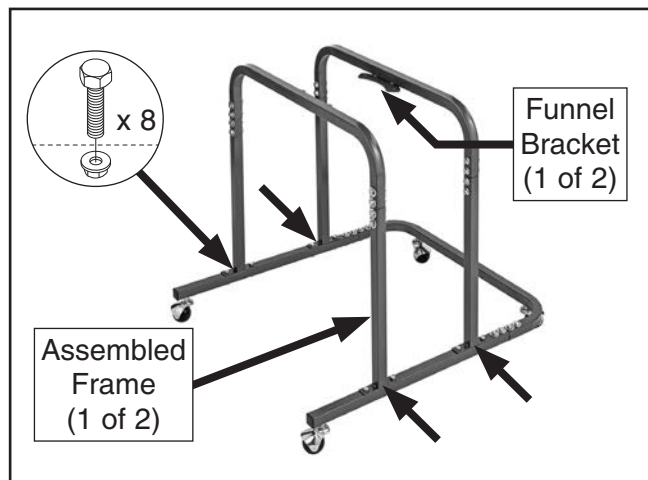

Figure 9. Assembled frames installed on base.
10. Repeat **Steps 7–9** with remaining (1) frame arch, (2) frame legs, and (2) connectors.
11. Install (2) assembled frames on base (see **Figure 9**) with (8) $\frac{5}{16}$ "-18 x $1\frac{1}{4}$ " hex bolts and $\frac{5}{16}$ "-18 flange nuts. Only hand-tighten for now.
Note: Assembled frames must be installed with funnel brackets facing each other, as shown in **Figure 9**.